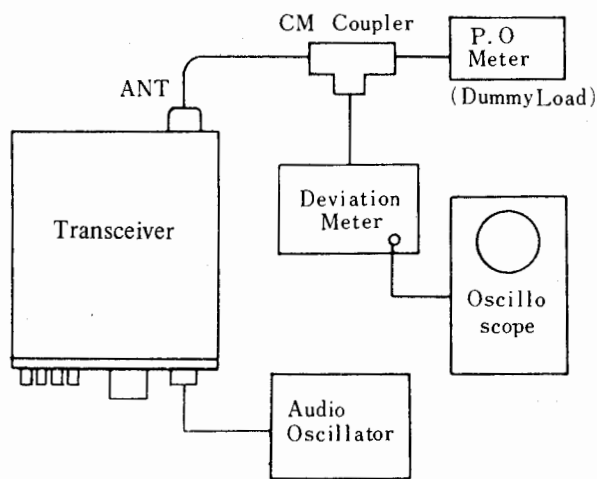

Fig. 7
(3) Modulator Alignment
- a) Set up the test equipment as specified in Figure 7.